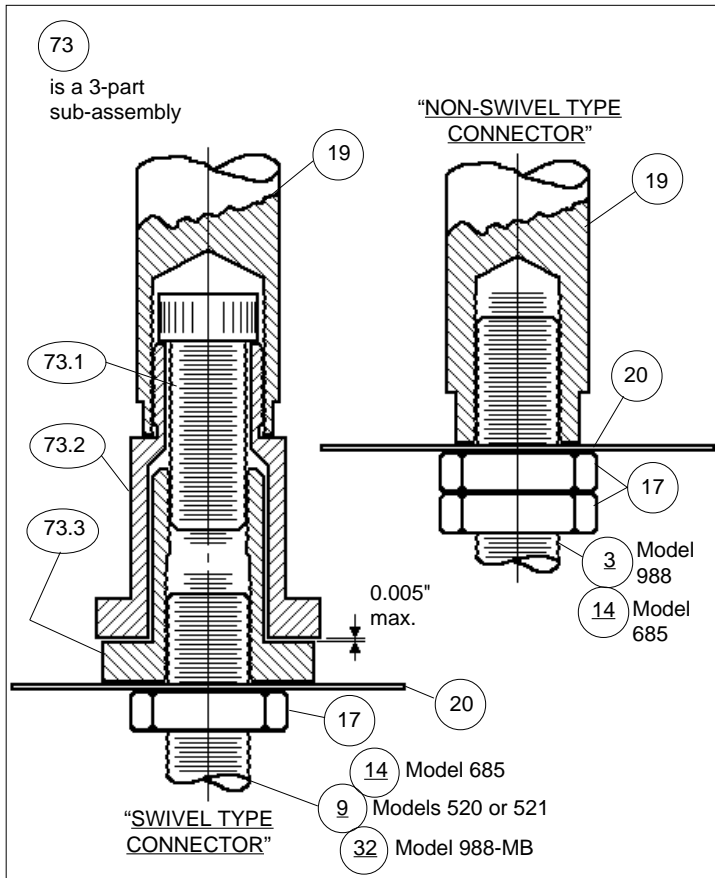

Figure 2 – Stem Connectors
1. Remove all air pressure from the casings (2)(3) prior to any disassembly.
2. Securely fasten the actuator/body unit into a vise or similar securing means. Orient with the casings (2)(3) upwards.
3. Using a pencil or similar device, scribe a mark on the position indicator plate (21) at the top edge of the position indicator disc (20). Location should be at full "O" for "open", or full "S" for "shut".
4. Figure 2 indicates the different types of actuator stem (19)- to -valve stem connection used on Model 520/521 TFE control valves (swivel-type), and all other types (non-swivel types).